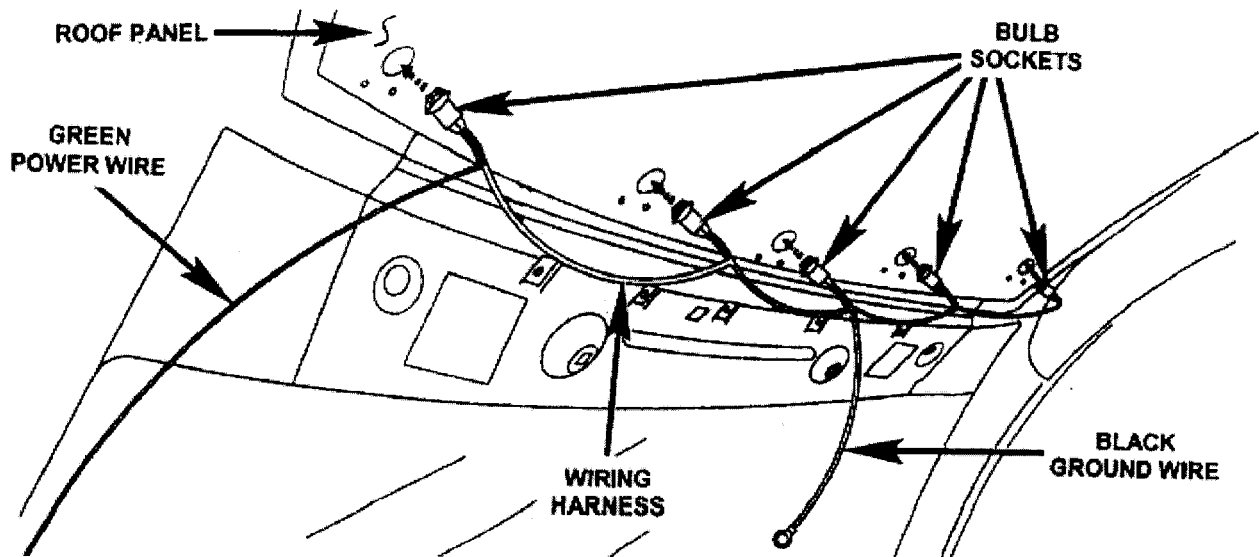

Figure 5
20. Place the light wiring harness into position (Figure 5).